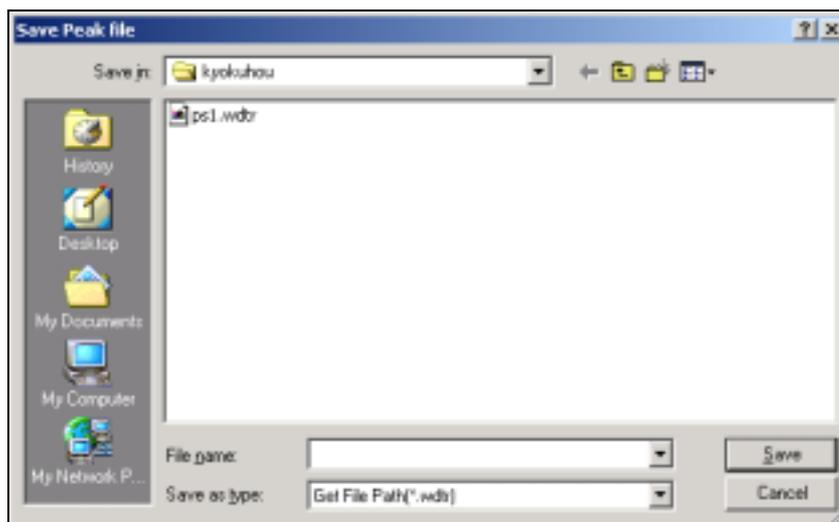

Figure 5-6. "Save Peak File" dialog box
4. When the input ends, < OK > button is clicked. The dialog box in Figure 5-6 is displayed, and the created peak table file is saved. The extension of the peak table file is “.wdtp”.